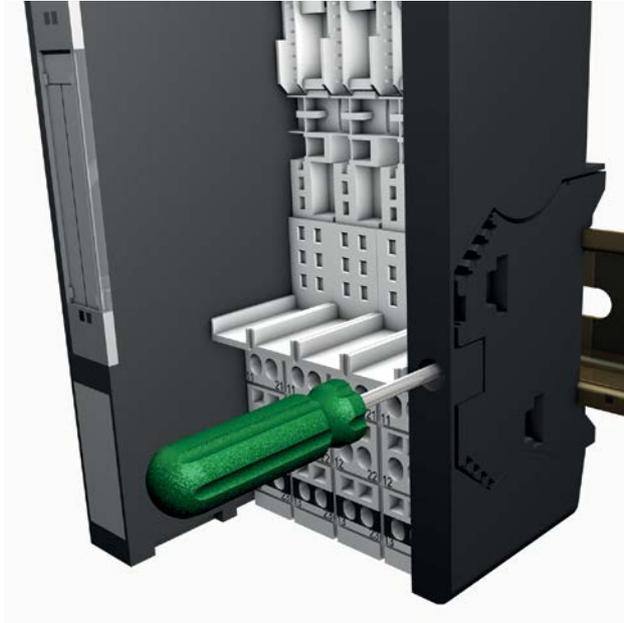

Fig. 11: Fastening the mounting bracket and end plate
- Clip the end plate and a mounting bracket as per Fig. 11 to the right of the last base module on the DIN rail.